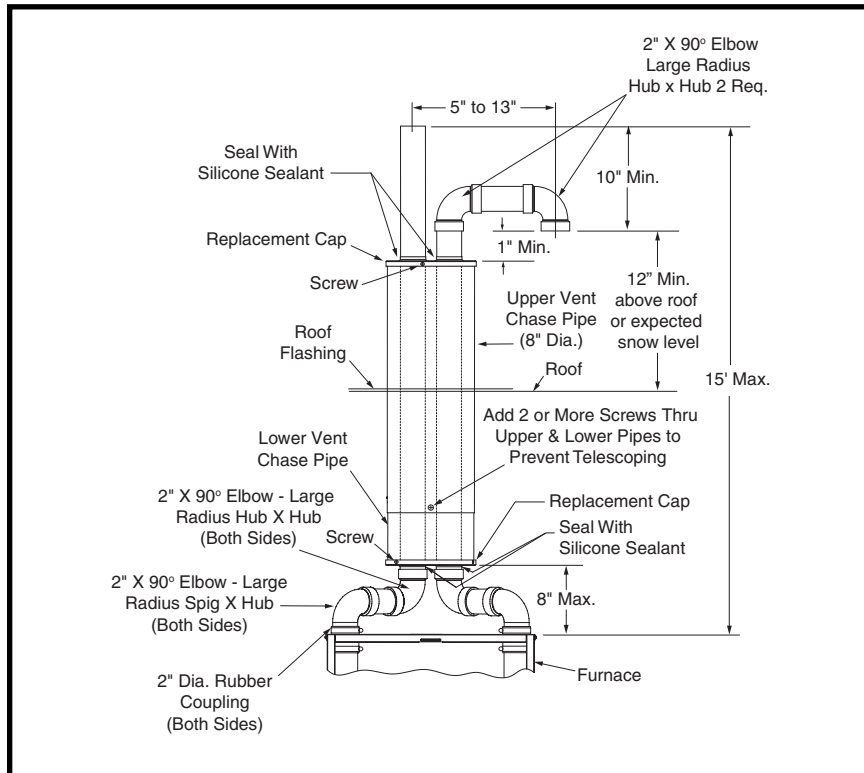

Figure 2. Vent & Combustion Air Intake Pipe Installation
2. Install 2" rubber couplings on the furnace pipes and assemble 90° SPIG x HUB elbow (large radius). See Figure 2.
4. Cut 2" plastic pipes to length and route the vent and combustion air intake pipes through the replacement caps. **NOTE:** The maximum height from the top of the furnace to the top of the flue pipe must be no longer than 15 feet. See Figure 2.